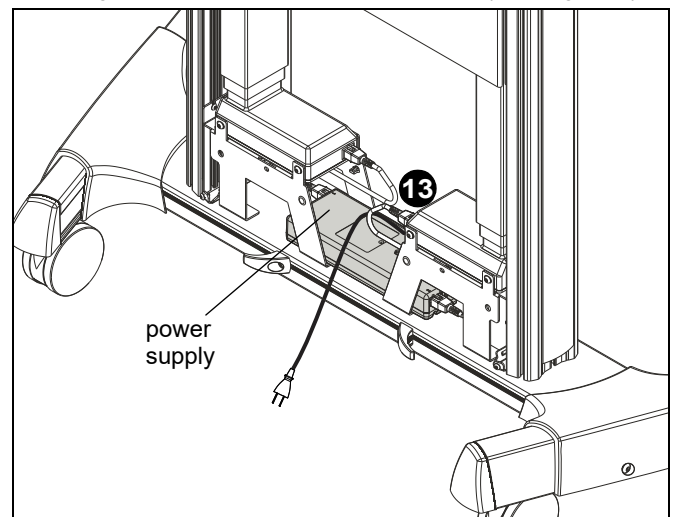

Figure 6
13. Plug in power cable (D) to power supply. Provide strain relief using the cable tie on nearest cable clip. (See Figure 6)